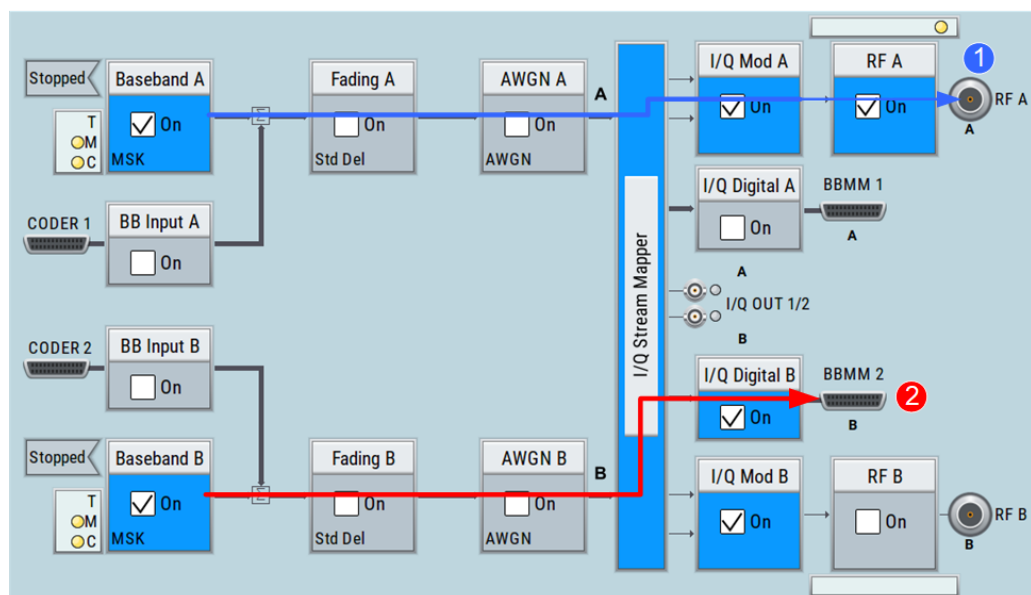

Figure A-1: Explanation of the terms "signal path"
The Figure A-1 illustrates the term signal path.
Compare the signal processing in both paths on Figure A-1. In the first path, the output signal is an analog signal modulated on a radio frequency (RF). The second signal